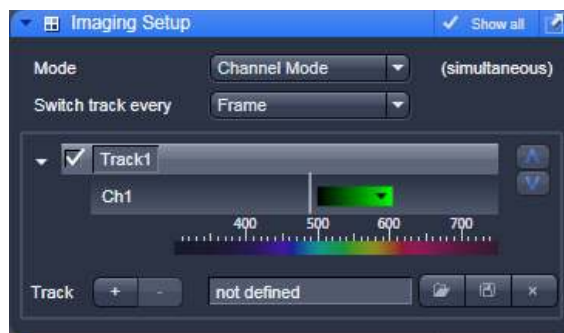

Fig. 15 Imaging Setup tool for a single track (LSM)
- Select **Channel Mode** if necessary (Fig. 15).
The following functions are available in the **List of Tracks** panel in the **Imaging Setup Tool** (Fig. 15, Fig. 16 and Fig. 17).